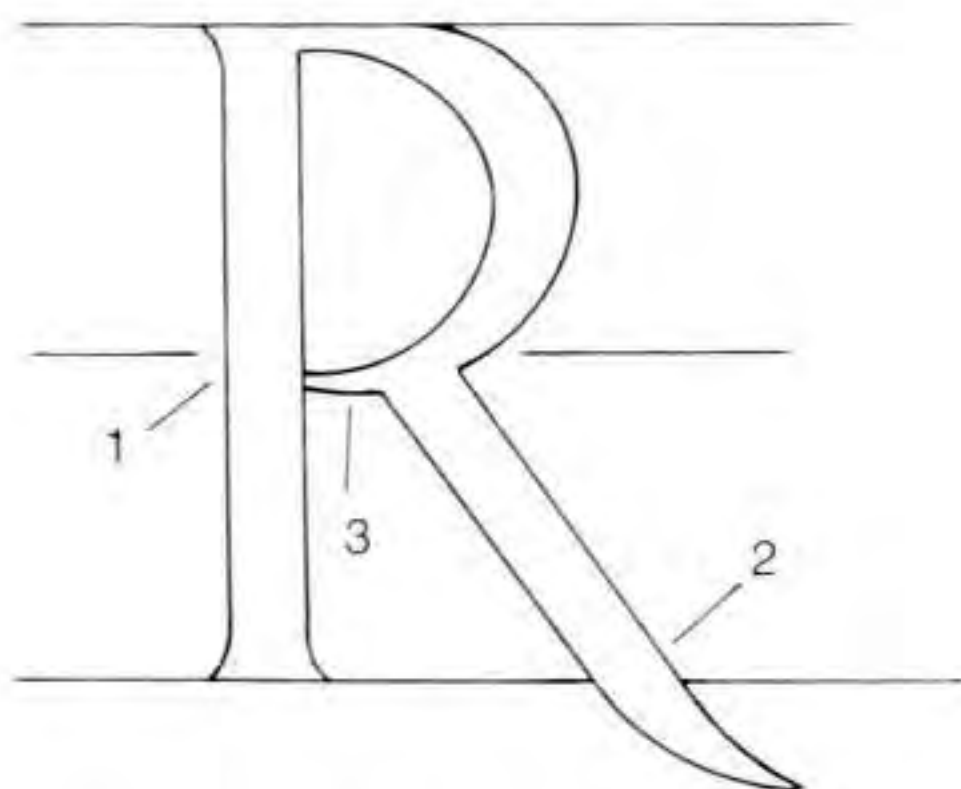

Fig 6.19 Features of the letter *R*.
See Fig 6.19. The inner curve of the bowl descends to meet the stem at right angles. A corner is formed by the lower end of the loop meeting the top end of the oblique leg. This corner meets the stem at a *point*, rather than cutting it (1).